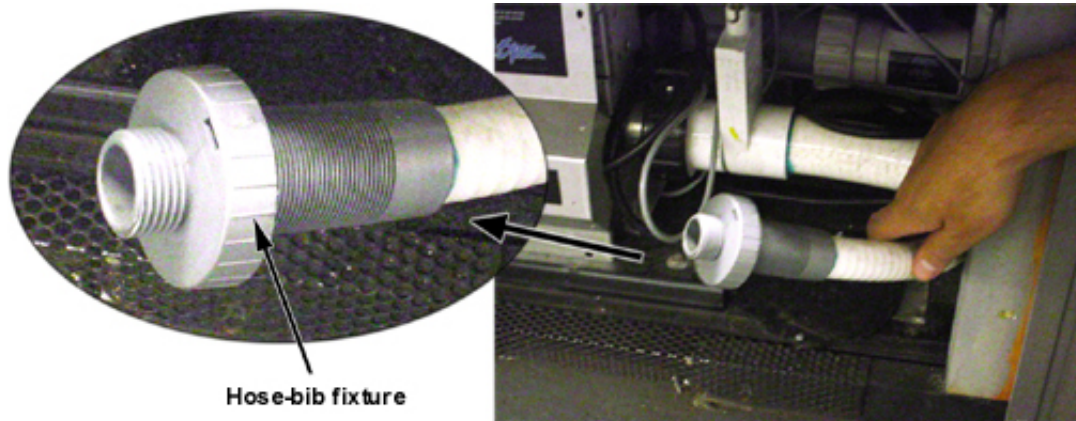

Figure 15. 3/4 inch hose-bib fixture
4. Locate hose ending with the 3/4 inch hose-bib fixture (Figure 15).